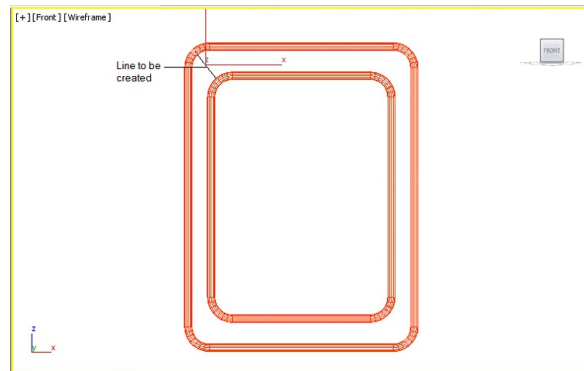

Figure 5-60 The line to be created in the Front Viewport
2. Click in the viewport at the upper left corner of *inner frame* and create a line upto the upper left corner of *outer frame*, as shown in Figure 5-60.